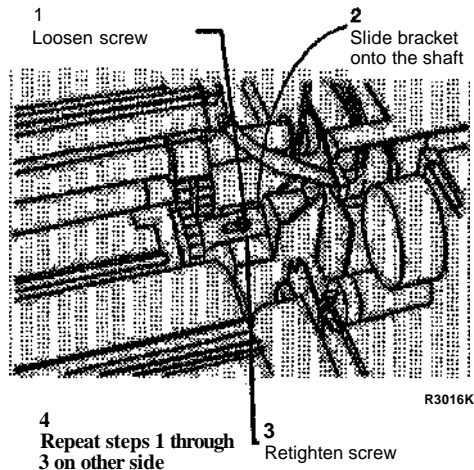

Figure 2. Engaging the Shipping Brackets
16. (Figure 2): Raise the Image Module to engage the Developer Module shipping brackets.